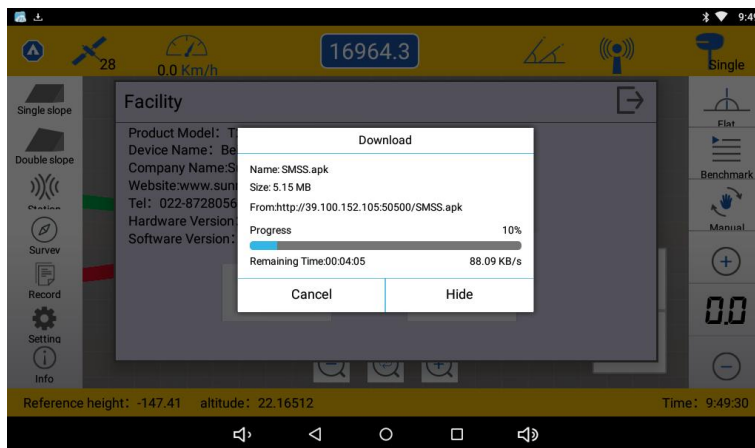

Figure 48
Step2. The system will download the SMSS software automatically. (Figure 48)